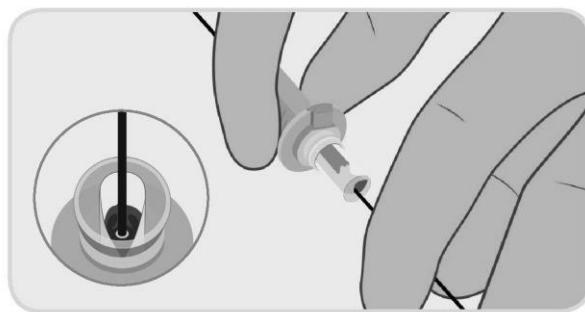

Figure 7. Loading guidewire into device cannula.
- Use non-heparinised saline to lubricate the guidewire during insertion. Insert the guidewire into the implant within the loading cannula, Figure 7 continue to insert the guidewire until it emerges from the rear of the PerQseal+ closure device handle. Hold the PerQseal Introducer-sheath at a low angle relative to the longitudinal axis of the artery (e.g. 20°) and keep the Introducer-sheath as straight as practical, to avoid kinking.
- Note 2: Only grip the back portion of the Loading cannula during insertion as indicated in Figure 7.*